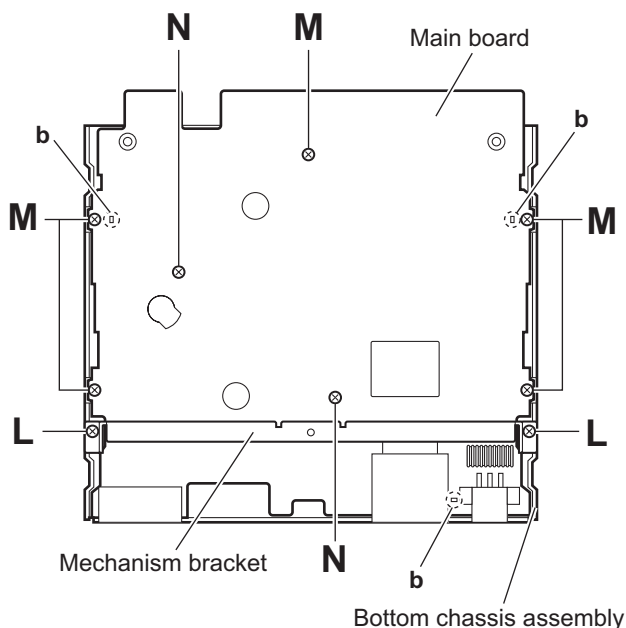

Fig.14
- (2) From the top side of the main body, remove the two screws **L** attaching the mechanism bracket on the bottom chassis assembly. (See Fig.14.)
- (3) Remove the five screws **M** and two screws **N** attaching the main board. (See Fig.14.)
- (4) Take out the main board from the bottom chassis assembly.
When attaching the main board on the bottom chassis assembly, align the projections **b** of the bottom chassis assembly in the hole of the main board. (See Fig.14.)